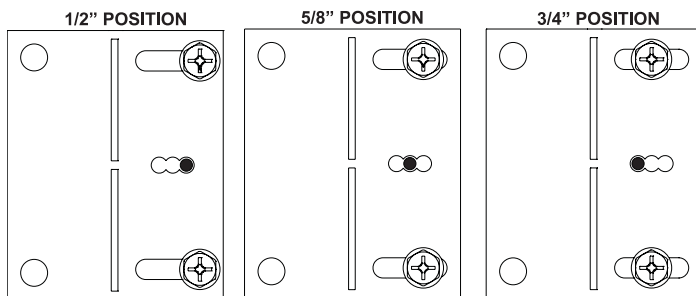

Figure 26
5. Measure from face of fireplace to face of drywall strip to determine final depth and adjust nailing flanges as shown in **Figure 26.**